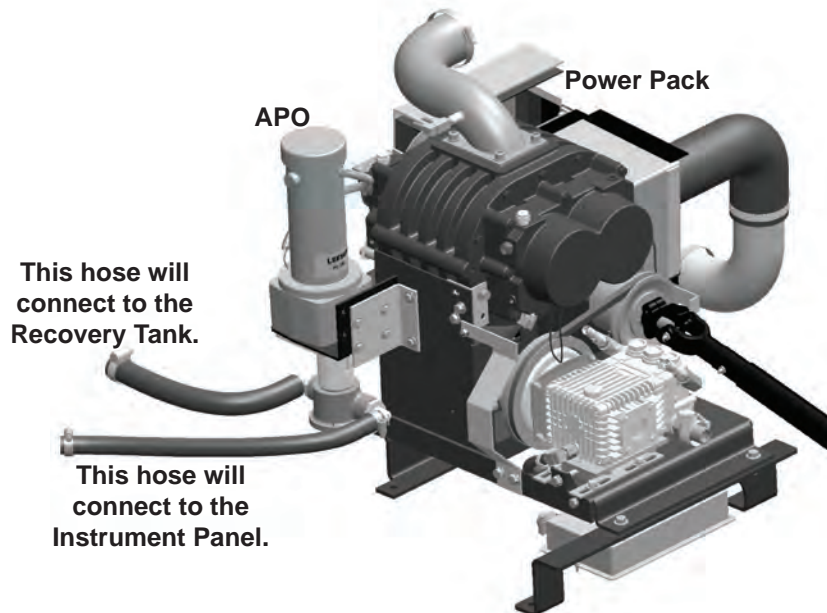

Figure 44. Install APO onto Power Pack
1. Secure the APO to the Power Pack Assembly using two 1/4-20UNC x 0.75" hex head bolts and two 1/4" washers (see Figure 44).
2. Locate the two hoses for the APO (see Figure 44).
7. Route the hoses to/from the APO as shown in Figure 44.